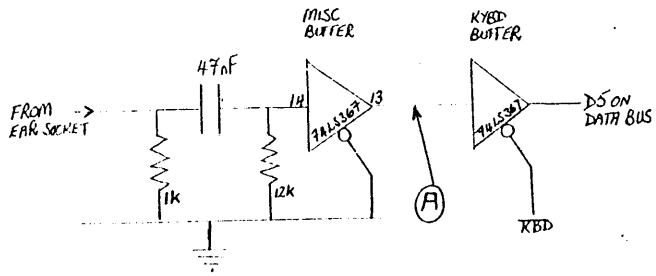
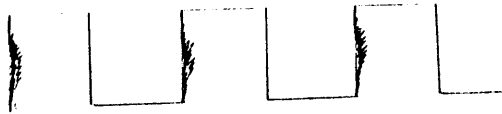

fig.1. TAPE LOAD CIRCUIT
fig.2. BAD SIGNAL AT POINT A.
The attached fig. 1 shows the Jupiter Ace keyboard matrix. In wiring up my own board I found that the computer would crash occasionally and produce some peculiar reactions unless the 5 10K pull-up resistors were added to the 74LS367 keyboard buffer. These are shown in the diagram. The 40 keys are connected in a 5 x 8 matrix which is decoded in the Ace to give the correct response.
Out came the 'scope yet again to find that the signal at point A of the loading circuit (shown in fig. 1) which should be a nice clean square-wave, looked like that shown in fig. 2, i.e. lots of noise on the leading edges of the square-wave. Changing the capacitor for another of the same value produced a slight improvement so I decided to experiment. Finally, fitting a .1uF polycarbonate capacitor produced two results:-
One feature of my latest game, ALIENS\*, is the ability of the program to detect multiple key presses. Here's how it's done. As it says on page 154 of the Ace manual, each half-row of keys corresponds to a unique Z80 port address, with the outer-most key on each row corresponding to bit 0 of the data read in from that port. The assignment of keys to ports is fairly straightforward, except on the bottom row, where SYMBOL-SHIFT has been assigned to the port for the left-hand half-row, and the 'v' key has accordingly been moved right. Fig. 1 shows the logical layout of the keys with respect to their port addresses.
-Fig.1-
Fig.2 the listing.